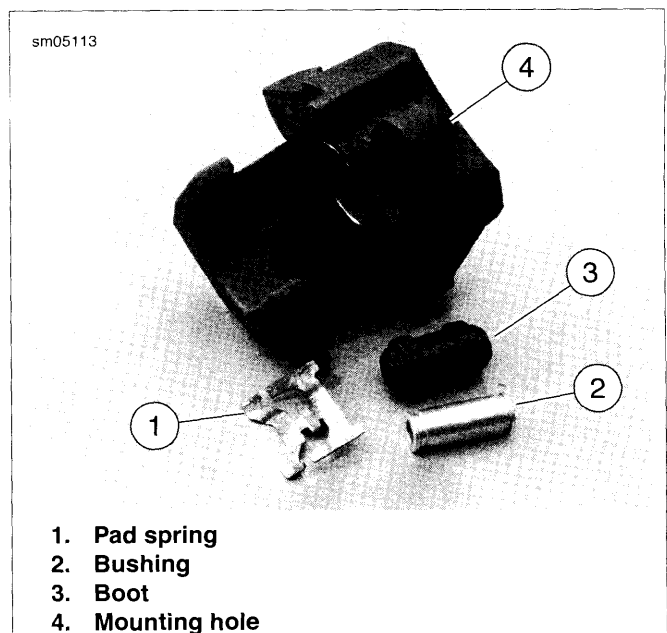
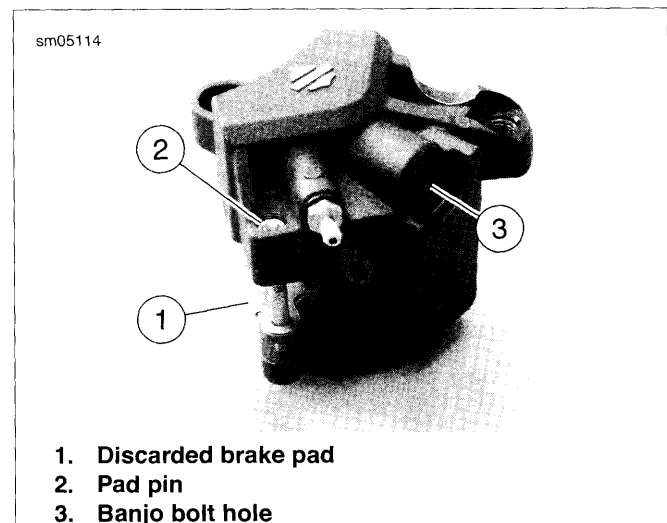

Figure 2-112. Spring, Bushing and Boot
Figure 2-113. Removing Piston: XR Models
2. See Figure 2-112. Remove pad spring (1).
3. Remove bushing (2) from boot (3). Remove boot from mounting hole (4). Do not remove bleeder valve at this time.
4. See Figure 2-113. Install a discarded brake pad (1) in the caliper with the backing plate facing the piston. Position